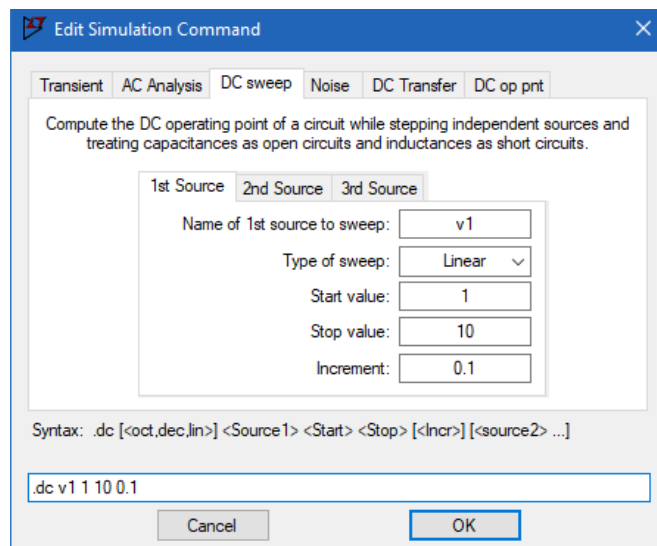

Fig. 2. Setting of DC analysis parameters.
- Set the analysis parameters as shown in Figure 2.